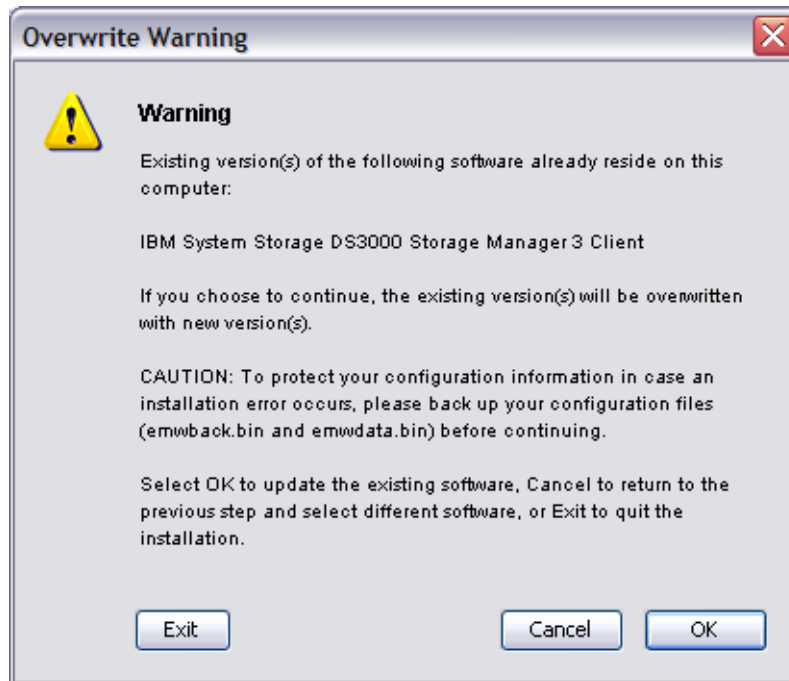

Figure 5-16 Overwrite Warning
7. If an older version of the DS3000 Storage Manager is already installed, the installation process displays a warning, as shown in Figure 5-16 on page 65. The message advises you to back up the configuration files `emwback.bin` and `emwdata.bin` before continuing the installation.